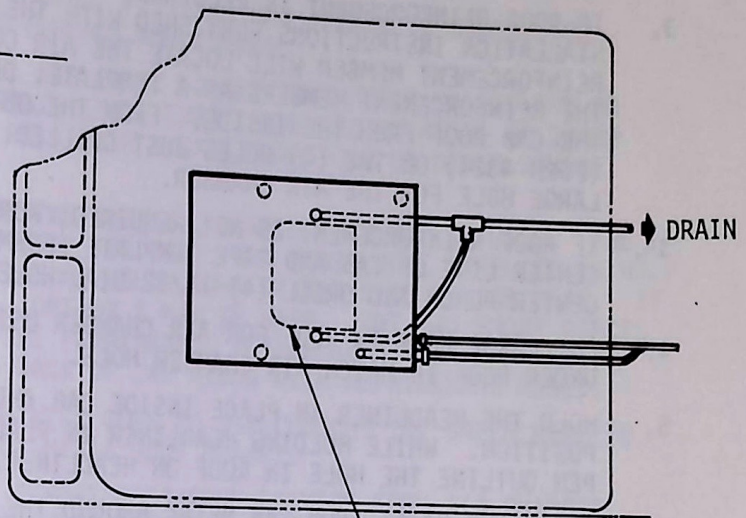

FIGURE 4
16. ATTACH DRAIN HOSE. EITHER OF TWO OPTIONAL CONNECTIONS MAY BE USED. THE PREFERRED METHOD IS OPTION 1 (SEE FIG. 4). CUT DRAIN HOSE SUPPLIED IN HALF, ATTACH ONE PIECE TO EACH DRAIN AND ROUTE DOWN EITHER SIDE OF CAB REAR. IF THIS METHOD IS NOT PRACTICAL, OPTION 2 MAY BE USED. CUT TWO SHORT PIECES OF DRAIN HOSE AND ATTACH TO TEE FURNISHED. ATTACH REMAINDER OF HOSE TO BRANCH OF TEE AND ROUTE DOWN BACK OF CAB ALONG WITH REFRIGERANT HOSES.